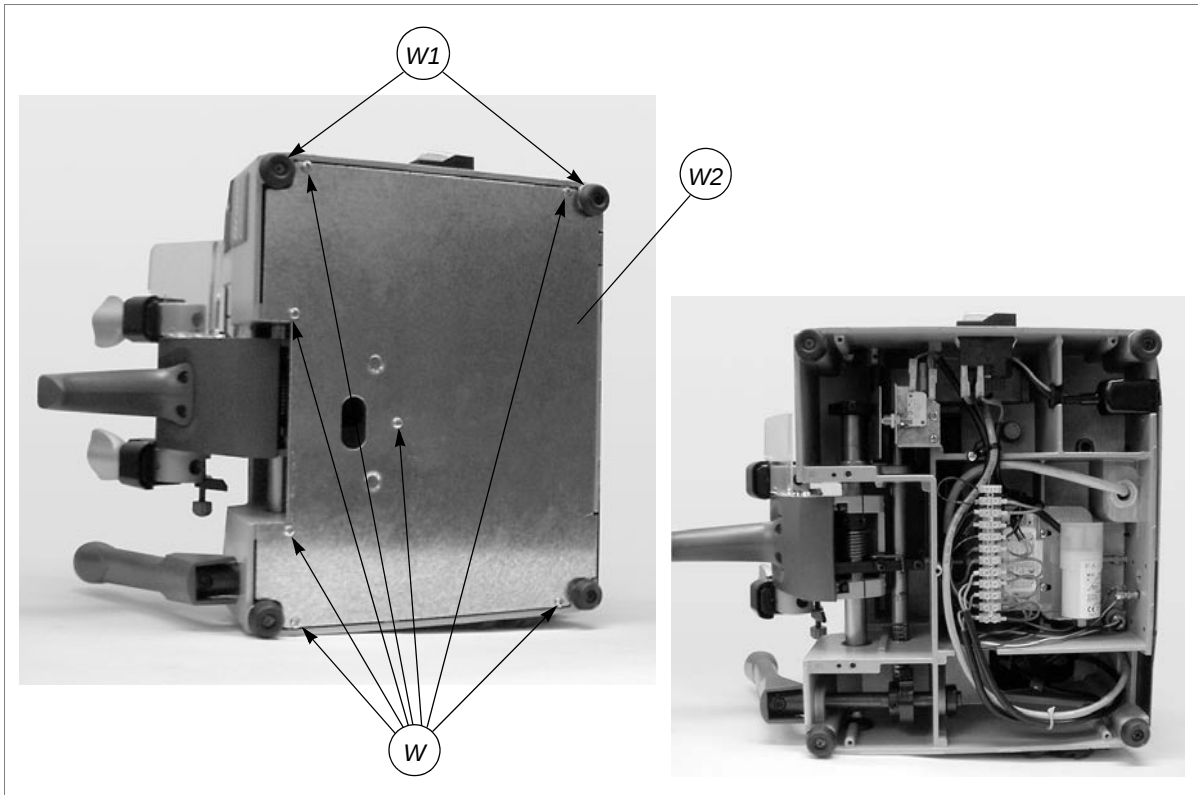
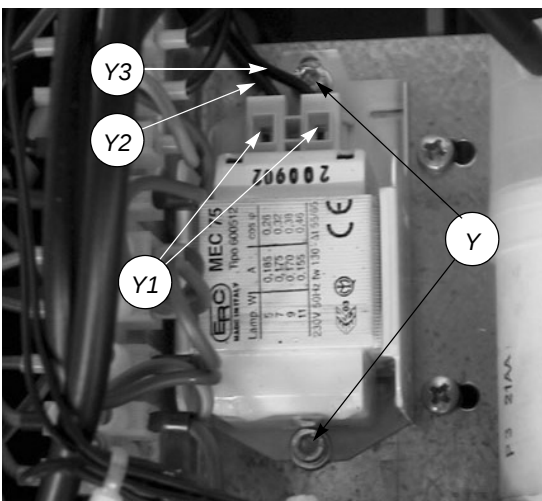

Fig. 33
Fig. 36
- 4) Loosen the 7 screws (W) and 2 feet (W1) and remove the bottom safety plate (W2) (fig.33).
- 2) Fit the new condenser and fix with the washer (Z1) and nut (Z).
- 6) Replace the bottom safety plate, fix with the 7 screws (W) and 2 feet (fig. 33, page 25). Fit the swarf tray.
- 1) Loosen the 2 screws (Y) and remove the reactor (fig.36).
- 4) Place the new reactor in its seat and secure with the 2 screws (Y).
- 5) Replace the bottom safety plate and fix with the 7 screws (W) and 2 feet (W1) (fig. 33, page 25). Fit the swarf tray.
- 9) Replace the bottom safety plate and secure with the 7 screws (W) and 2 feet (W1) (fig. 33, page 25). Fit the swarf tray.
- 5) Loosen the 7 screws (W) and 2 feet (W1) and remove the bottom safety plate (W2) (fig.33, pag.25).